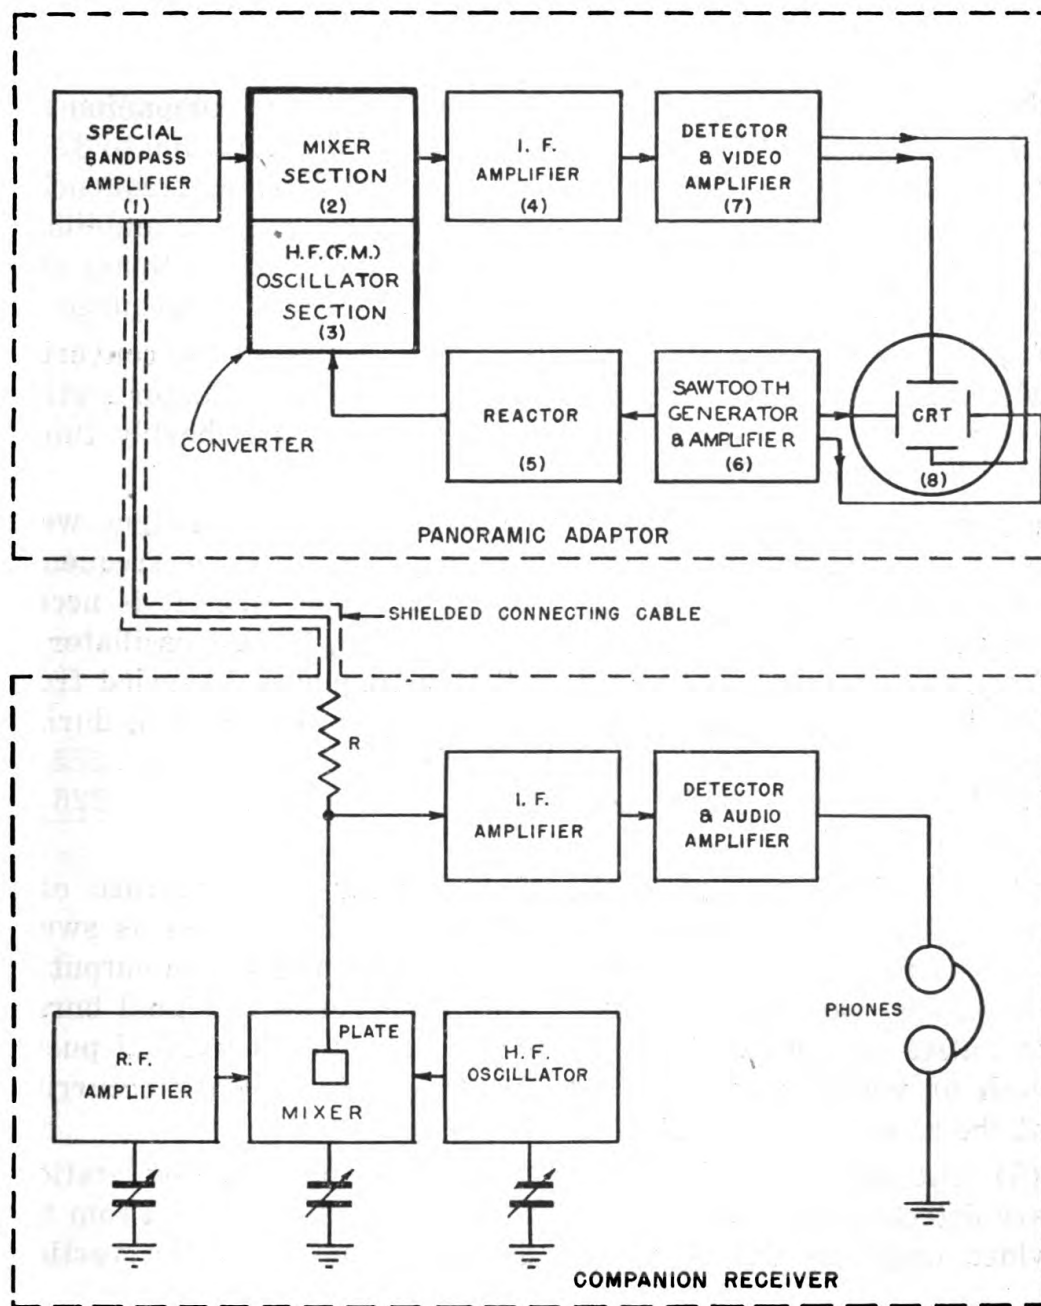

Figure 7. Panoramic system, block diagram.
a. Introduction. The panoramic adaptor, used in conjunction with a superheterodyne receiver, is a visual indicator of received signals. Each signal picked up on the receiving antenna, over a definite range of frequencies, places a corresponding mark or peak on the calibrated scale of an oscilloscope. Panoramic Adaptors BC-1031-A and -B show a frequency band extending 100 kc on each side of the frequency tuned in; Panoramic Adaptors BC-1032-A and -B show a frequency band extending 500 kc on each side. The entire system consists of three major parts: a conventional superheterodyne (companion receiver), the superheterodyne section of the adaptor which receives its signal from the mixer output of the conventional receiver (fig. 7), and the oscilloscope circuits. The features of the panoramic adaptor which distinguish it from the conventional superheterodyne are as follows:
(1) The special band-pass amplifier in the BC-1031-A or BC-1031-B passes a wide band of frequencies ($455 \text{ kc} \pm 100 \text{ kc}$) in comparison to the sharply selective i-f amplifier of the conventional companion receiver. Therefore, signals which beat with the h-f oscillator of the companion receiver to produce difference frequencies separated as much as 100 kc from the 455-kc i-f frequency, pass into the panoramic i-f system with signal strengths equal to a 455-kc difference signal. However, these same signals do not appear in the audio output of the companion receiver, as its i-f system is sharply tuned to 455 kc and only receives signals which produce a 455-kc intermediate frequency.
(2) The h-f oscillator of the panoramic superheterodyne is frequency-modulated instead of set on a fixed frequency. The oscillator is tuned over a band of frequencies at a fixed rapid rate. Therefore, during one sweep cycle it will be beat progressively
shown on the block diagram in figure 7, consists first of the special band-pass amplifier which passes a wide band of frequencies. In the case of Panoramic Adaptor BC-1031-A, if the companion receiver is tuned to 3,000 kc, all signals received from 2,900 to 3,100 kc appear in the output of the band-pass amplifier as frequencies covering a range from 355 to 555 kc. Furthermore, the amplification factor from the antenna to the output of the band-pass amplifier is reasonably constant over this 200-kc range of frequencies.